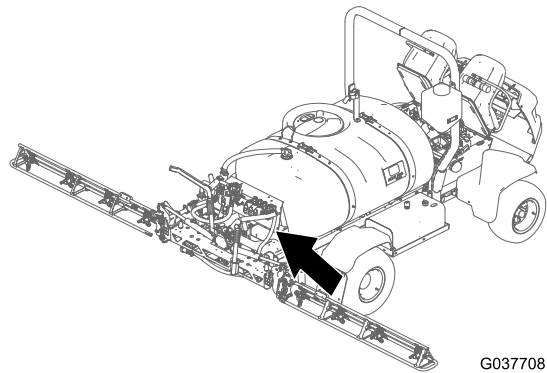
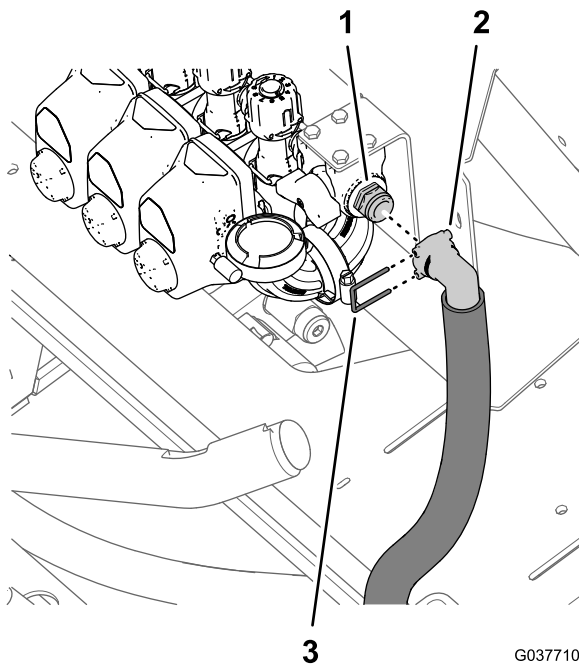

Figure 77
Figure 78
1. Assemble the 90° barbed fitting of the bypass hose—2.5 x 64 cm (1 x 25 inches) onto the quick-connect fitting at the bypass-shutoff valve (Figure 77 and Figure 78).
2. Secure the 90° barbed fitting to the quick-connect fitting with the retainer that comes with the bypass and drain-hose assembly (Figure 78).